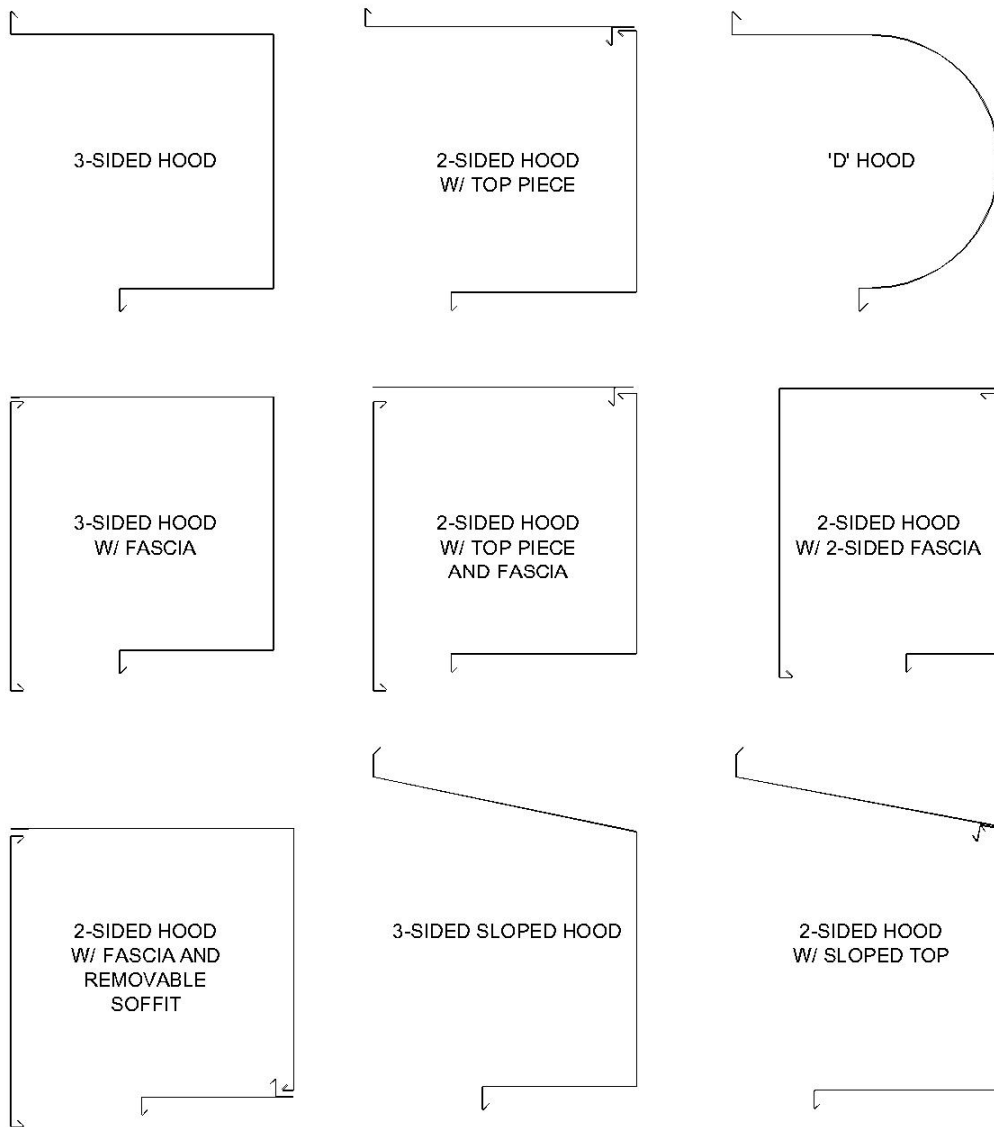

Figure 10.1 - Hood Configurations
2. If a square hood is provided, check the job construction drawings to see if it has multiple parts (such as a two sided hood with a removable soffit, two sided hood without a top piece, two sided hood with a sloped top, etc). See **Figure 10.1** for possible hood configurations.